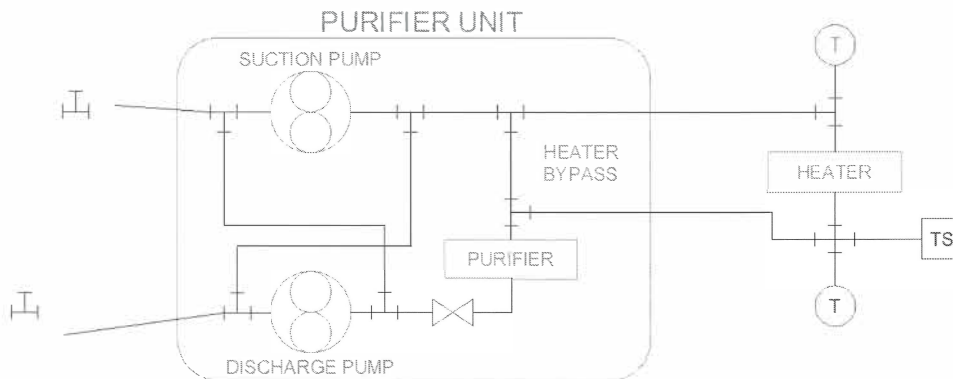

Figure 3-2
2. Use the **Stretch** command to stretch the Heater elements farther to the right, as shown in Figure 3-2.